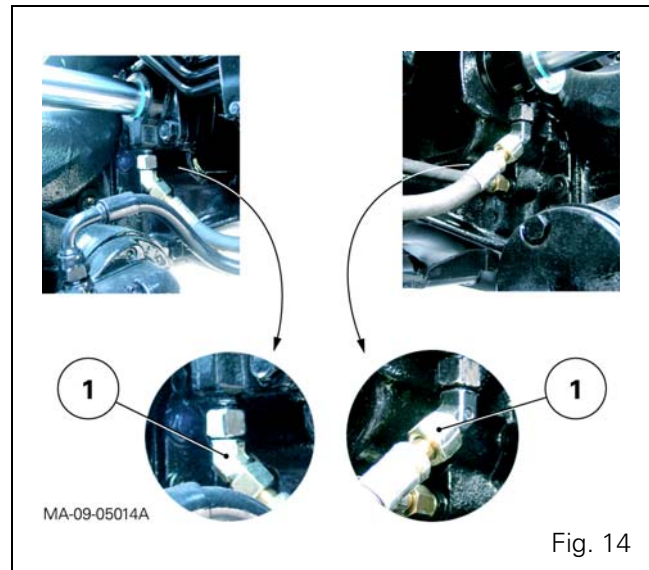

Fig. 14
38. Disconnect and block the supply hoses (1) (right and left) (Fig. 14) from the ram, marking their positioning.